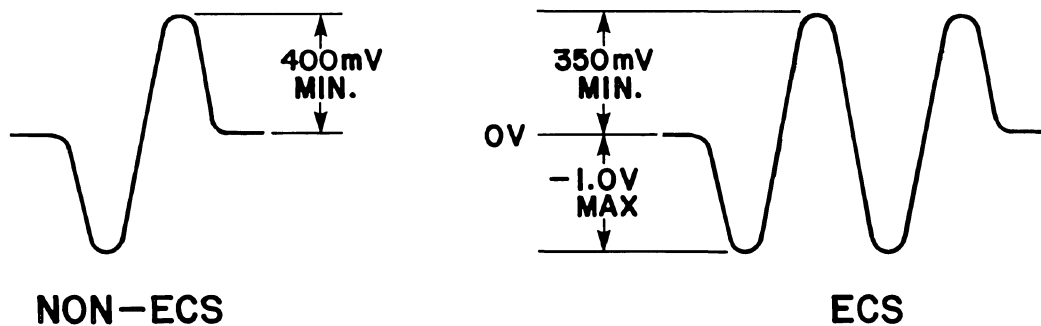

Figure 5-14. PRINT WHEEL HOME SENSOR WAVEFORMS
- 12) The electrical signal out of the sensor should be at least 400mV peak for non-ECS units, and 350mV peak for ECS units. Figure 5-14 illustrates this signal as seen at terminal J3-13 on the SCE circuit board.